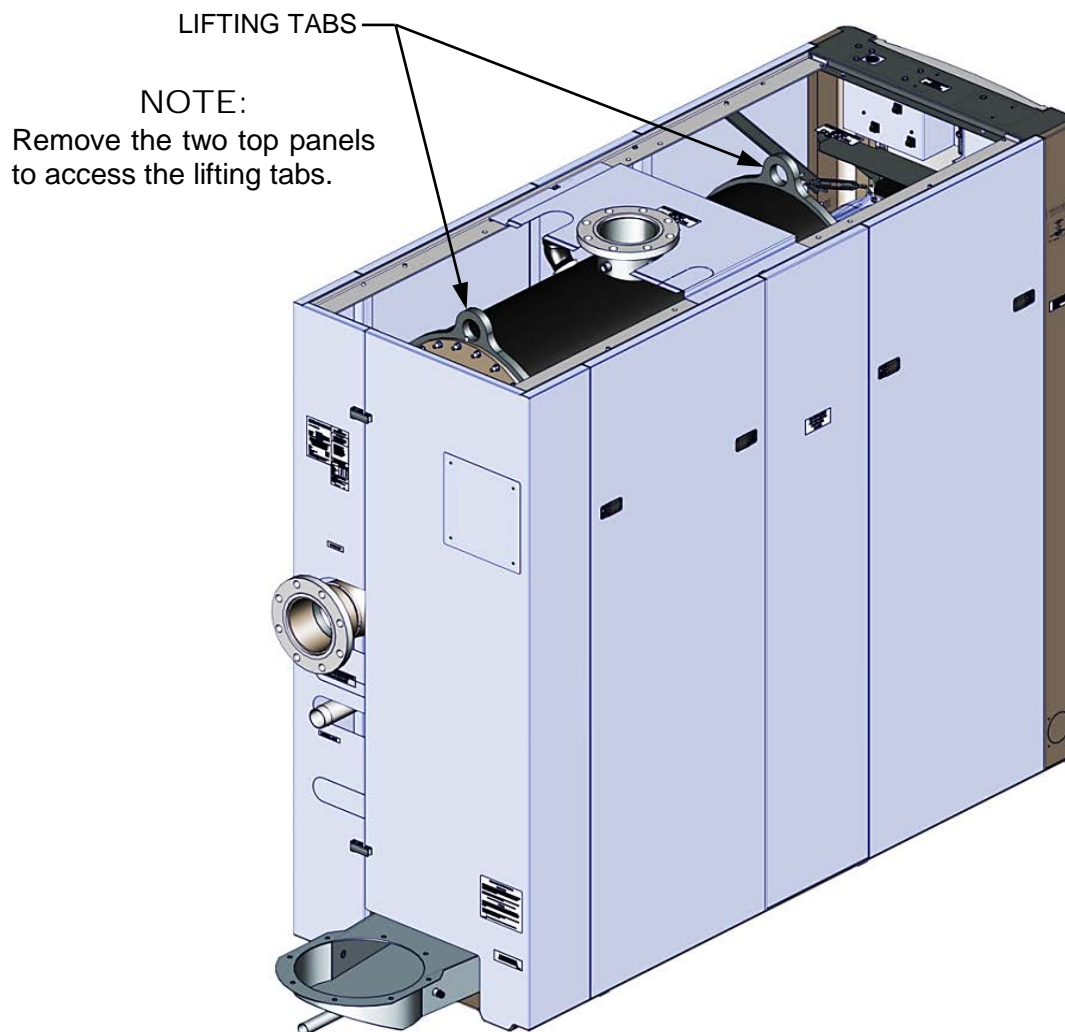

Figure 2-3: Boiler Lifting Provisions
Two (2) lifting lugs are provided at the top of the primary heat exchanger as shown in Figure 2-3. Cut the cardboard at marked locations to provide access to the lifting tabs.